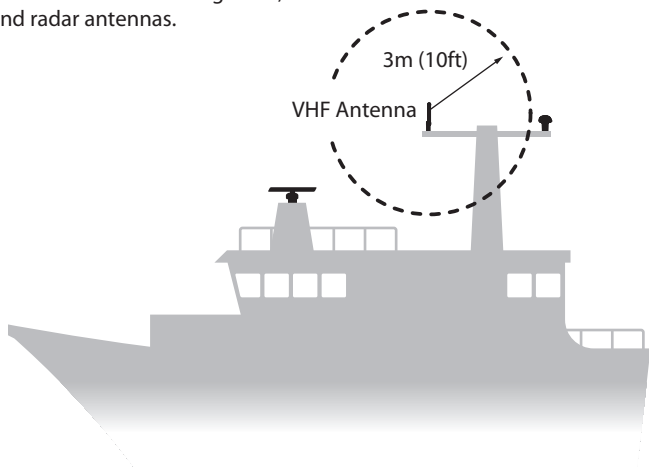

Figure 9 VHF Antenna location
- Ideally the AIS VHF antenna should be mounted directly above or below the ship's primary VHF radiotelephone antenna, with no horizontal separation and with a minimum of 2m vertical separation. Refer to Figure 9. for further guidance.